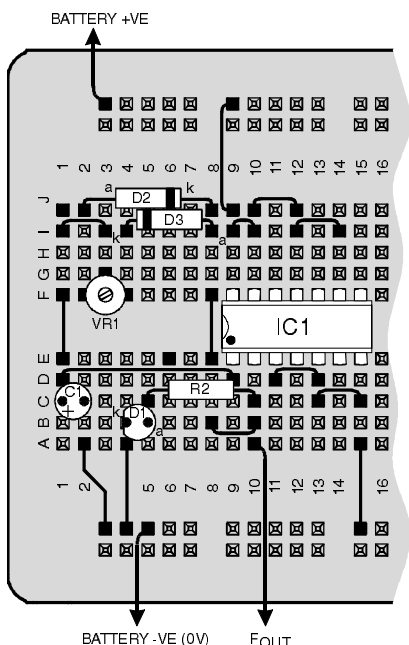

Fig.4.1. Breadboard layout for the circuit in
There is a simpler way to generate a square wave frequency than you have been using in Parts 2 and 3, and it uses just one inverter of a 74HC14 Schmitt trigger integrated circuit (IC). Modify the breadboard layout of Fig.3.17 last month so that it looks like that in Fig.4.1, but, for the moment leave out the components numbered D2 and D3, and put a 1k $\Omega$  resistor (R1) in position D3. (See also Panel 4.4).
Photo 4.1. The breadboard assembly for Fig.4.1 and
The 1N4148 diodes in your component pack should be of about the same size and shape as the resistors you have been using. They are likely to have their identity coded on them using colored bands, in resistor fashion. The code, read from left to right, should be yellow, brown, yellow, gray, meaning, of course, 4148 (as we know from previous installments). The yellow banded end should be placed in the breadboard to correspond with the letter *k* shown on the layout in Fig.4.1 (we shall explain later what the *k* means in this context).